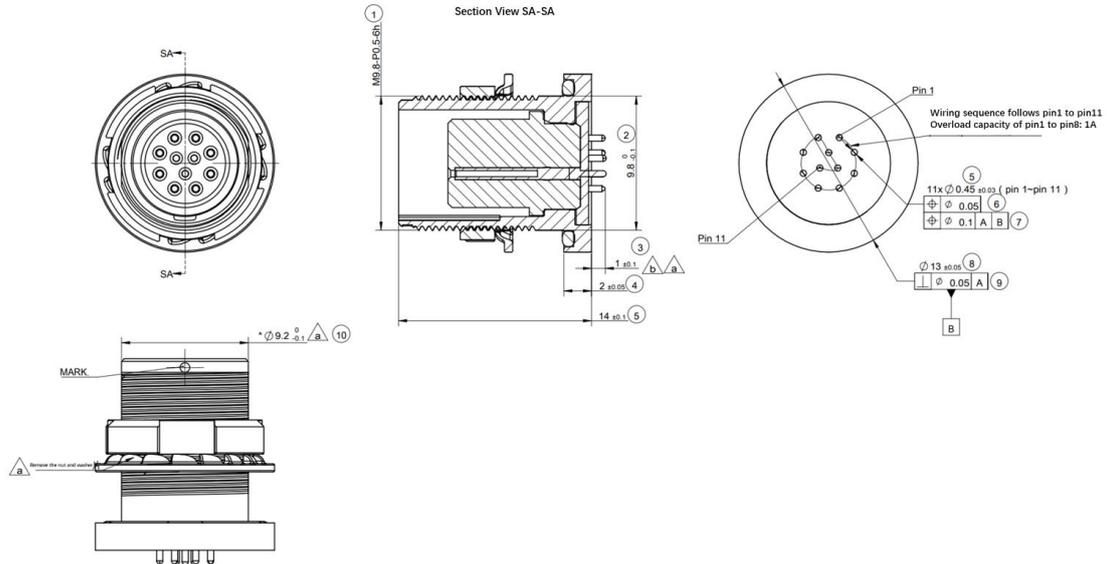

Figure 8 Aviation Plug Interface Pin Numbers
- 1) The GPS interface on Fairy's aviation cable utilizes an SM2.54 terminal connector, with the pin configuration detailed in Figure 8;
The cable aviation plug on the Fairy LiDAR side is shown in Figure 8 .